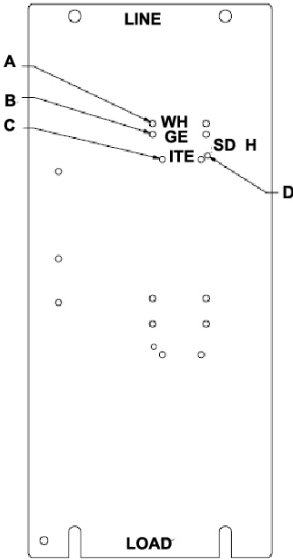

FIGURE 2
1. Referring to Figure 2 and the above Table, select the proper mounting pan location for the circuit breaker manufacturer.